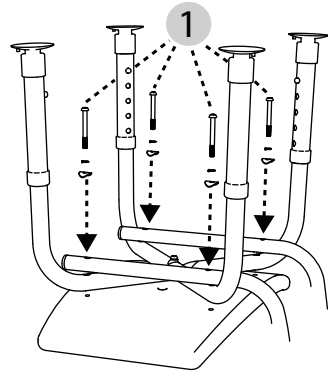

Abb. 3
3. The next step is to bring the holes of the telescopic legs and those of the backrest tubes into alignment and screw all components to the seat surface (Fig. 3, 1). Use the following parts for this: